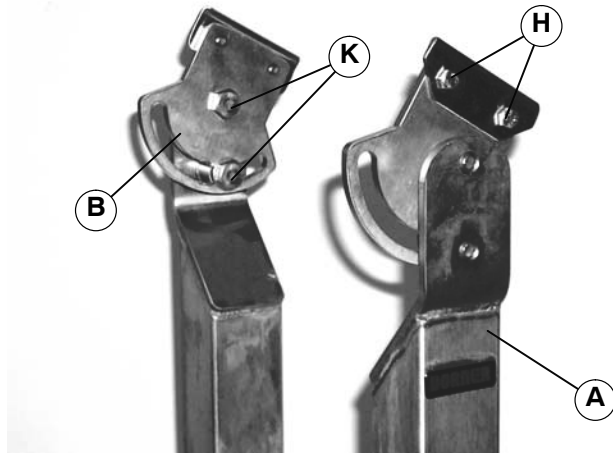

Figure 4
NOTE: For slotted brackets (B of Figure 4), loosen two screws (K). Adjust bracket so top is at approximately the same angle as the conveyor. Do not tighten screws.
3. Attach bracket (B) to conveyor (I) and tighten four screws (H) to 80 in-lb (9 Nm).
4. On slotted brackets, if necessary, adjust bracket angle to match conveyor angle and tighten screws (K of Figure 4) to 50 ft-lb (72 Nm).